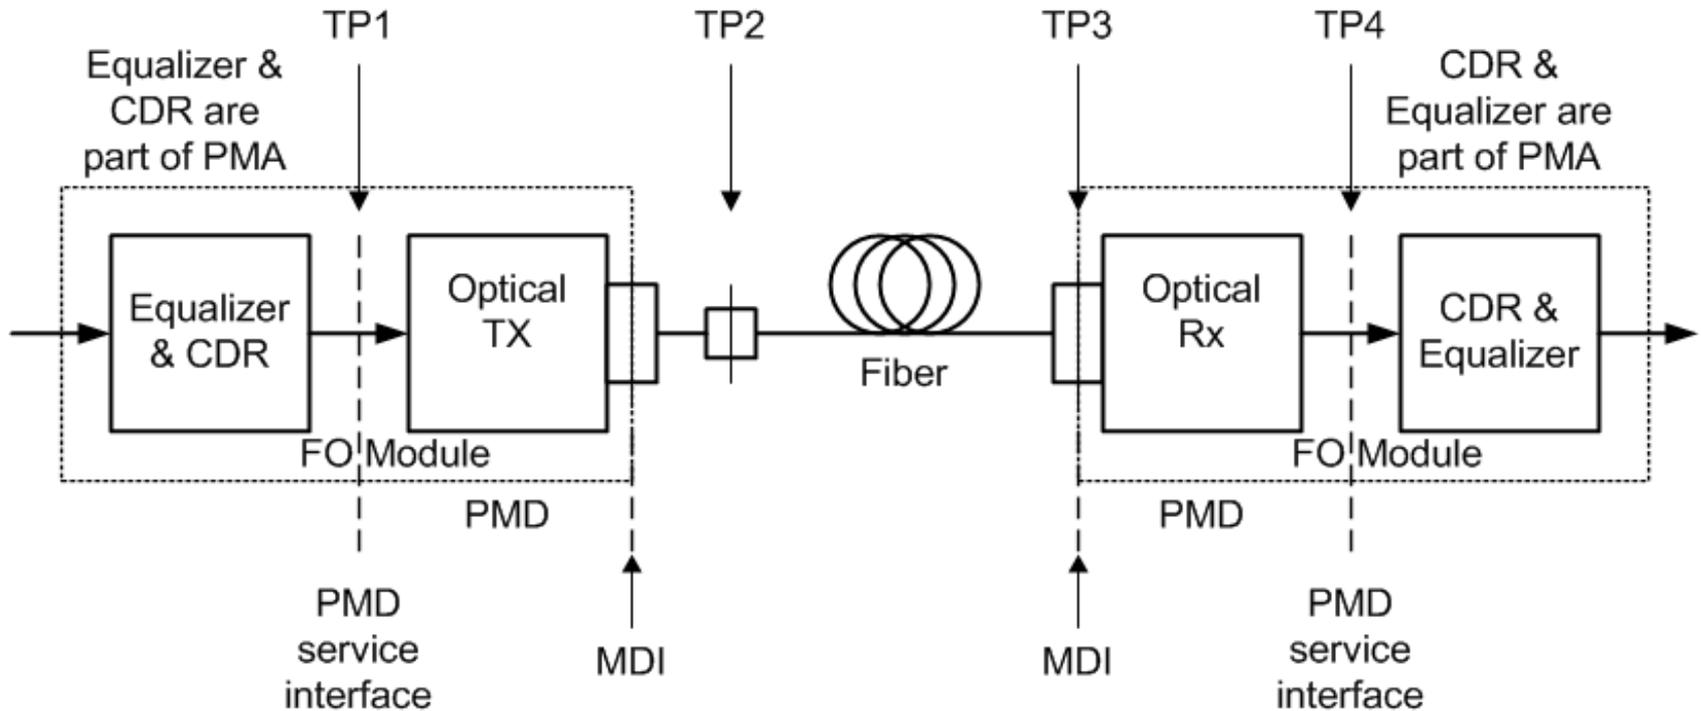

Figure 1
- Nomenclature: Terms TP1, TP2, TP3 and TP4 are used as defined in 802.3 clause 86 and shown in above Figure 1 and Figure 2.
- For cases, as shown above in Figure 1, where retimers are embedded in the optical module, the PMD service interface is not exposed. TP1 and TP4 remain as points on the PMD service interface and, consequently, not exposed.
Nomenclature: Terms TP1, TP2, TP3 and TP4 are used as defined in 802.3 clause 86 and shown in above Figure 1. Note that TP1 is downstream of the input CDR and equalizer for an optical transmitter.